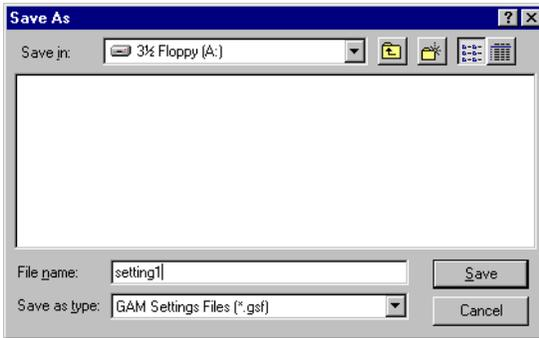

Figure 5-30. Save Settings to a File
1. Click Save Settings. A Save As dialog box is displayed (Figure 5-30).